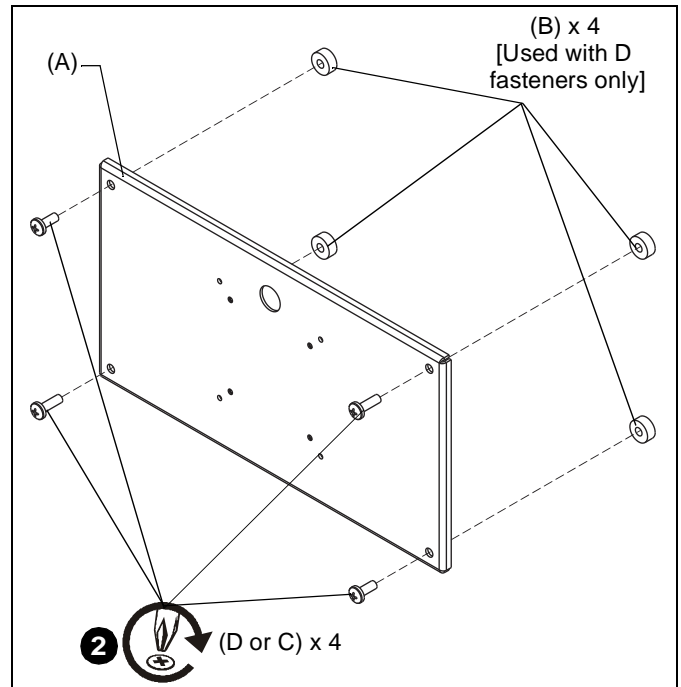

Figure 1
2. Attach interface bracket (A) to back of display using four M8 x 20mm Phillips cap head screws (C), or four M8 x 25mm Phillips cap head screws (D) and .875 x .330 x .375" spacers (B). (See Figure 1)